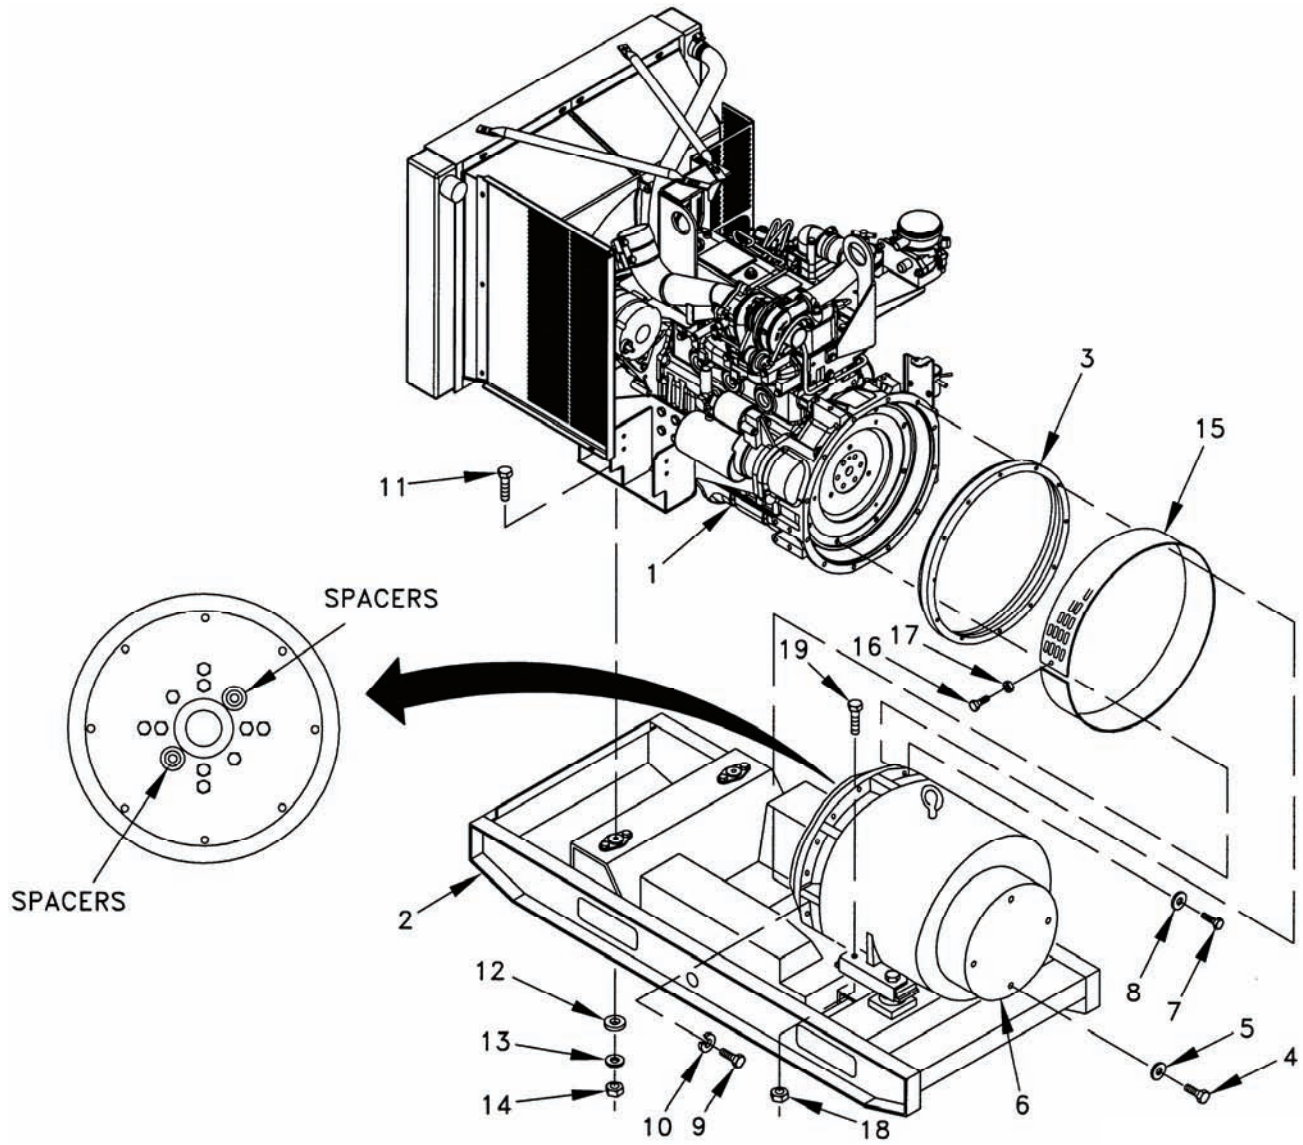

Figure 5-27. Engine.
- a. Attach lifting harness to engine (1, Figure 5-27) and overhead hoist. Take up slack.
- b. With aid of an assistant, lift engine from engine stand and position engine on skid base (2), aligning flywheel housing to mounting holes, brackets, and generator. Insert generator spacer (3) (Item 88, Table 5-1) between engine and generator.
- c. Locate two spacers on generator coupling disk 45 degrees off from bolts in engine flywheel (Figure 5-27).